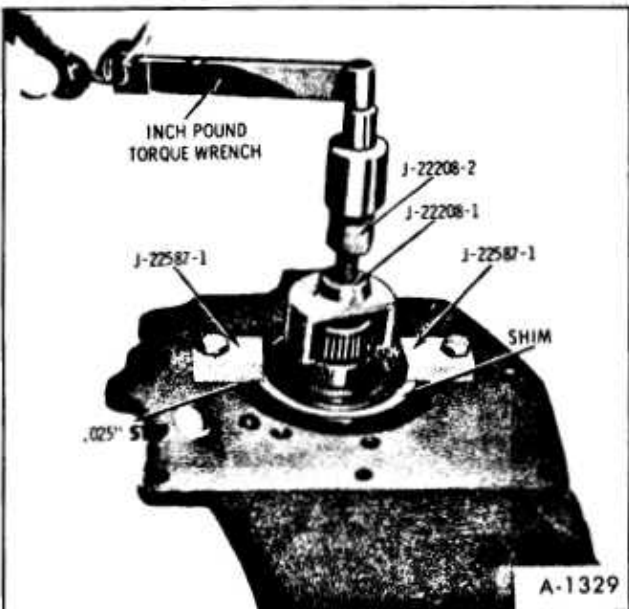

Figure 41—Checking Shim Thickness for Pinion Bearing
2. Position pinion bearing race on pinion bearing and install Tool J-22587-1 as shown in Figure 41. Using a feeler gauge check thickness between bearing race and Tool J-22587-1. Loosen bolts holding Tool J-22587-1 so that pinion bearing shim can be installed. Shims are available in sizes from .036" to .070" in increments of .002". Add shims until a pre-load of 2 to 5 in. lbs. for used bearings, 2 to 15 in. lbs. for new bearings is obtained. **RECORD FINAL SHIM THICKNESS.**